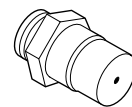

Figure 32
Step 9. Unscrew the orifice from the manifold and replace it with the one provided with the kit. See the following table for orifice sizes for natural and propane models. **Figure 32** illustrates the orifice.